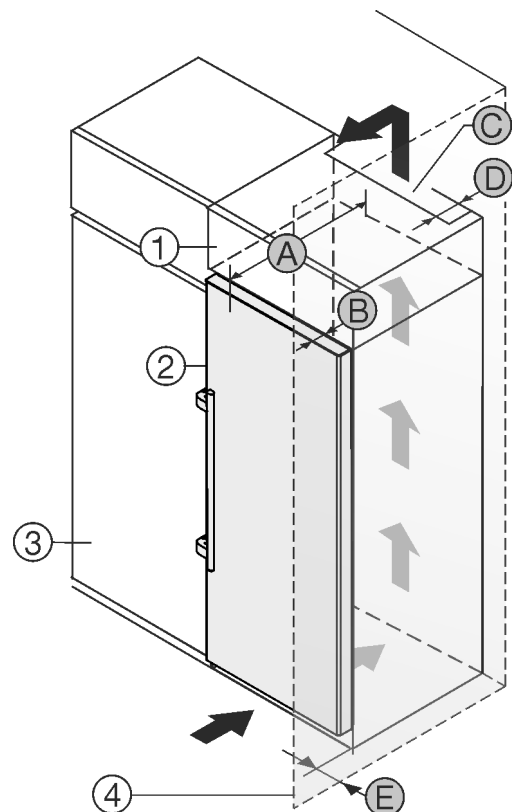

Fig. 2
Set up the appliance directly next to the kitchen cabinet Fig. 2 (3)*.
There must be a ventilation shaft at the depth Fig. 2 (D) of the back of the top cupboard over the entire width of the top cupboard.*
The cross section of the ventilation gap Fig. 2 (C) must be maintained below the ceiling.*
If the appliance is installed with the hinges next to a wall Fig. 2 (4), the distance between the appliance and the wall must be at least 57 mm. This is how far the handle protrudes when the door is open.*
In order to be able to fully open the door, the appliance must protrude by the depth Fig. 2 (B) of the door from the front of the kitchen cabinet. Regardless of the depth of the kitchen cabinets Fig. 2 (3) and use of wall spaces, the appliance can protrude further.*